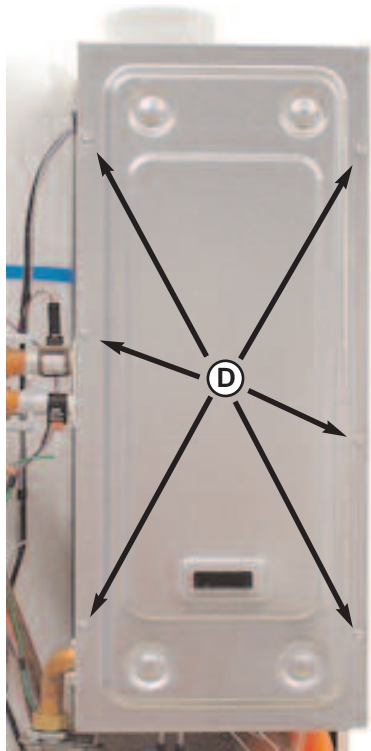

Fig. 18.18
2. Unscrew the six self tapping screws "D" to release the sealed chamber front panel and lift clear (see Fig. 18.18);